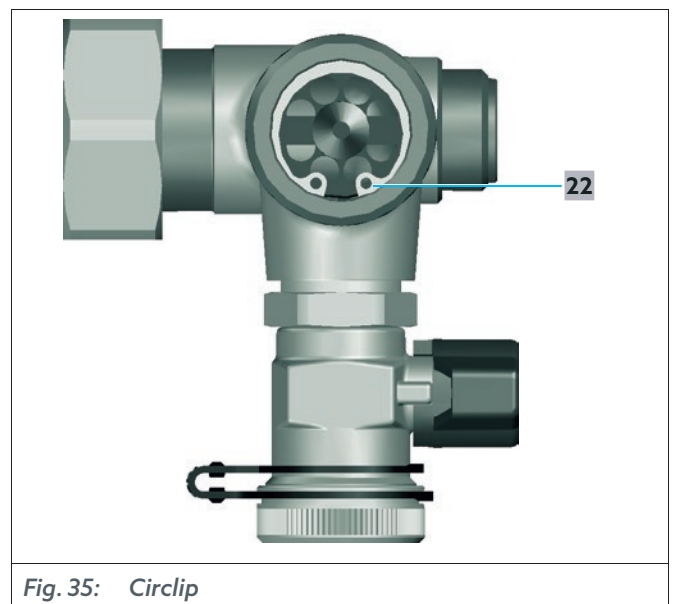

Fig. 35: Circlip
- 1** Loosen the circlip (position **22** in Fig. 35 on page 53) with suitable circlip pliers.
- Insert the circlip (position 22 in Fig. 35 on page 53).